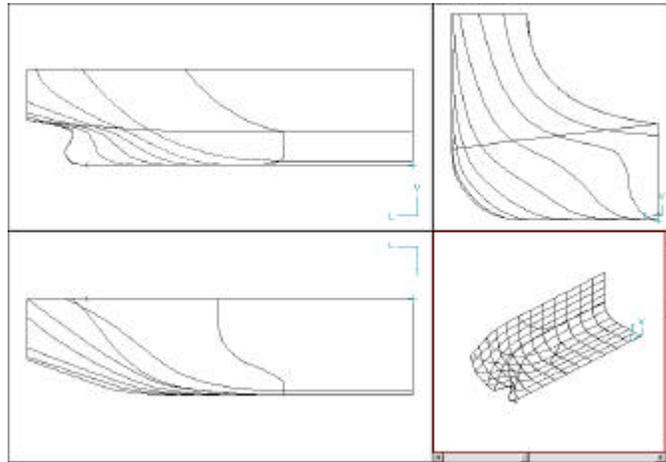

Figure 2-18: Aftship Surface
14. Turn on the contours by clicking on the **Contours** button. (See Figure 2-18.)